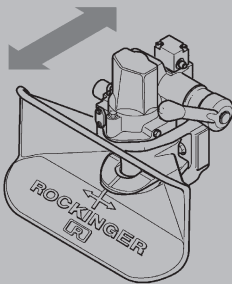

Fig. 9
- Grip coupling head (not jaw funnel) with both hands when uncoupled and move vigorously in direction of travel (see Fig. 9):